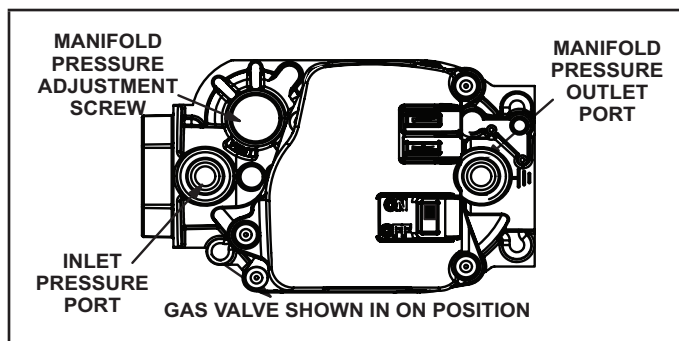

Figure 61
Gas Valve Operation (Figure 61)
- 6 - Move gas valve switch to OFF. See Figure 61.
- 8 - Move gas valve switch to ON. See Figure 61.
When testing supply gas pressure, use the 1/8" N.P.T. plugged tap or pressure post located on the gas valve to facilitate test gauge connection. See figure 61. Check gas line pressure with unit firing at maximum rate. Low pressure may result in erratic operation or underfire. High pressure can result in permanent damage to gas valve or overfire.